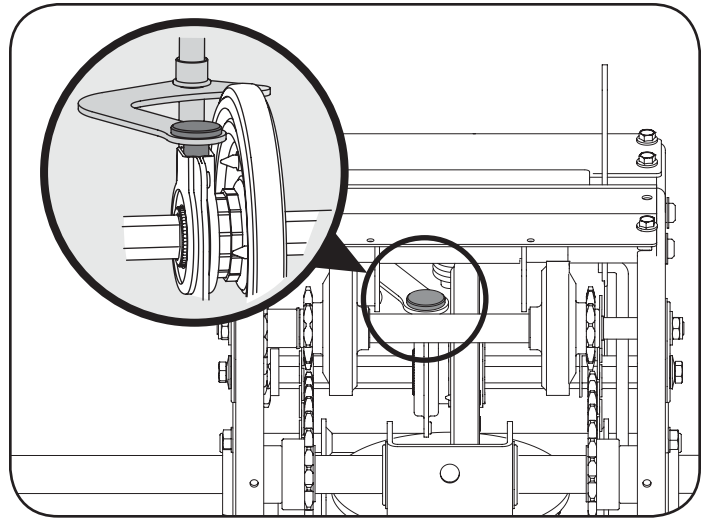

Figure 40
9. Reposition the friction wheel assembly in the snow thrower frame. Insert the pin from the speed selector arm assembly into the friction wheel assembly and hold assembly in position. Refer to Figure 40.